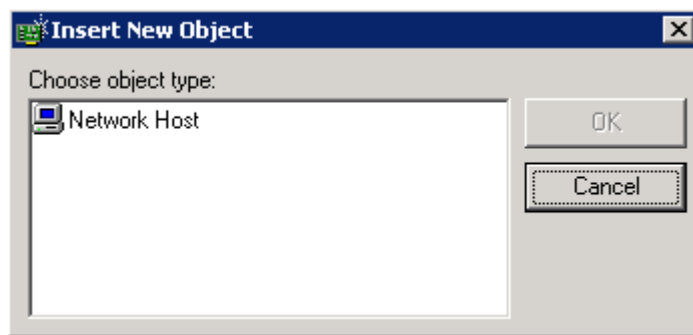

Figure 22 - Insert New Object
2. The **Insert New Object** window (Figure 22) appears.